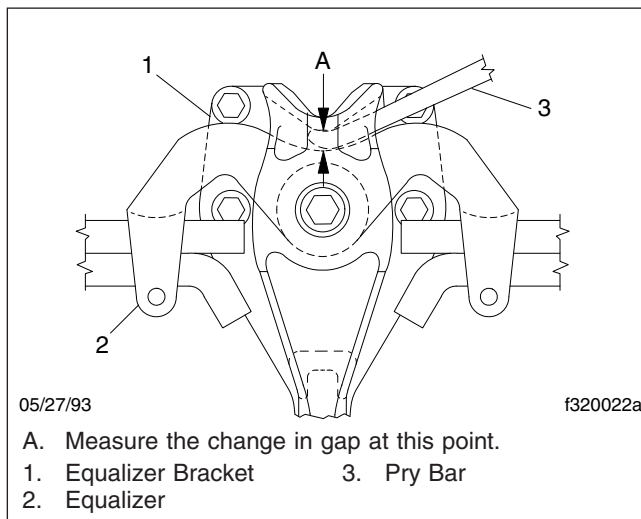

Fig. 4, Side View of the Equalizer
- Block up the frame enough to take chassis weight off the springs. Attempt to move the equalizer up and down, using a pry bar between the top of the equalizer and top of the equalizer bracket; apply hand pressure only. See **Fig. 4**. If movement at the center of the equalizer exceeds 1/8 inch (3 mm), replace the equalizer bushings. See **Group 32** of the *Century Class Trucks Workshop Manual* for instructions.